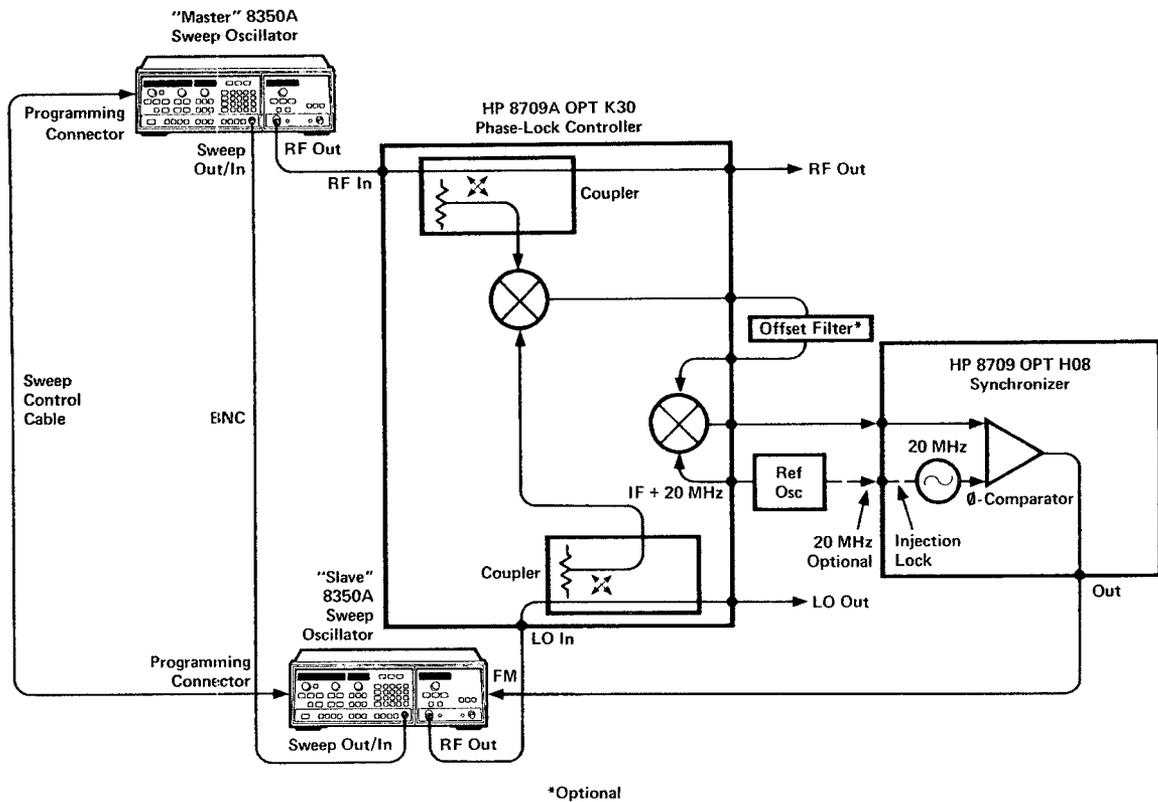

Figure 5. Two-tone System with Phase-Locked Offset Block Diagram
For more demanding applications a Two-tone Source with Phase-locked Offset provides improved offset (IF) accuracy over the Basic Two-tone Source previously described. Like the Basic Two-tone Source, this system designates one sweep oscillator as a "Master" and the other as a "Slave" (see Figure 5). The sweep ramp of the "Master" is then used to externally sweep the "Slave" which has been adjusted to the desired offset. A Sweep Control Cable is attached to the programming connector to coordinate the sweep signals.
1. Connect the equipment as shown in Figure 5³